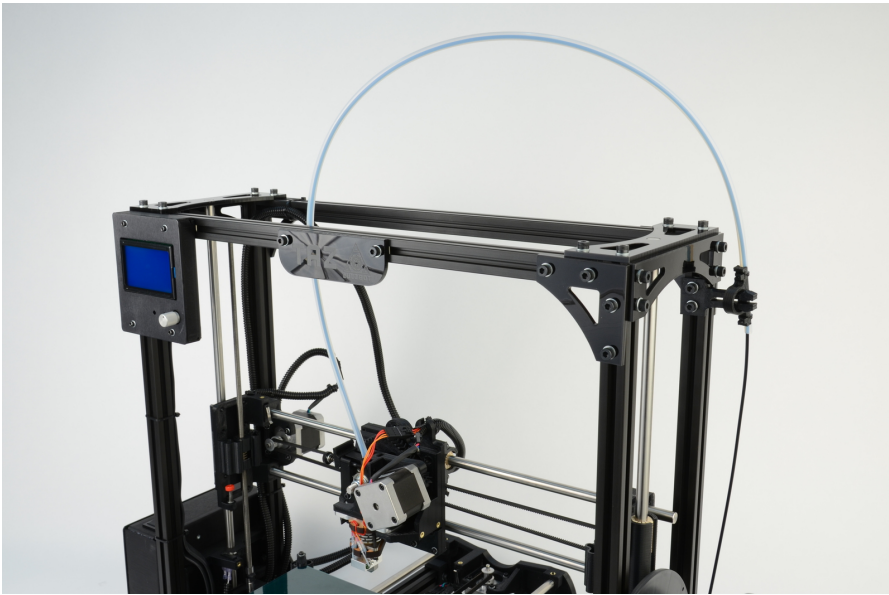

Figure 2.4: Filament run through the guide
4. Feed the end of the filament through the filament feed tube. The Filament should now be threaded through the PTFE sleeve and exiting near the extruder (fig. 2.4, page 36).